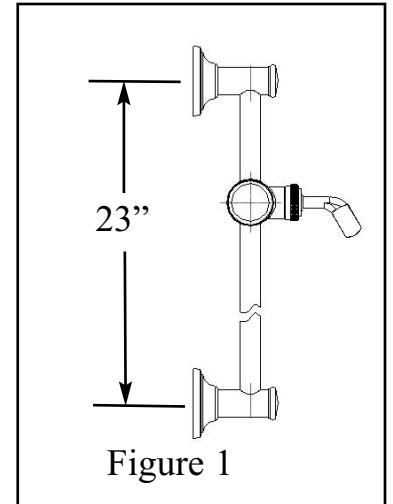

Figure 2
- Place SLIDE BAR (2) into END POST (3). Note: Large diameter hole in SLIDE BAR (2) must face out as shown in **Figure 2**.
- Place POST (3) onto ESCUTCHEON (4), insert SCREW (5) and securely tighten into ANCHOR (1) as shown in **Figure 2**.
- Press END CAP (6) into end of POST (3).